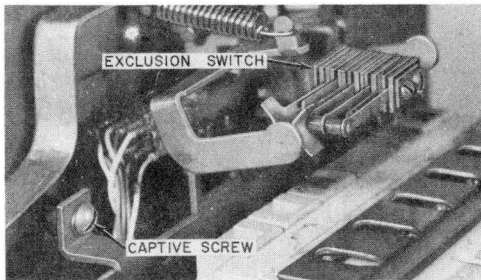

Fig. 10—Exclusion Switch Installed and Hinged Chassis Mounting Screws (Early Version)
3.02 The telephone set should be mounted before installing the modular items. To expose the mounting holes, the hinged chassis assembly must be lowered by loosening the captive screws (Fig. 10) holding the top of the chassis. For ease of installation the chassis assembly can be removed from the base pan by springing the hinged brackets sufficiently to clear the pins. The base pan can then be mounted directly to the wall using the keyhole slots, or holes provided for mounting over an electrical outlet box.